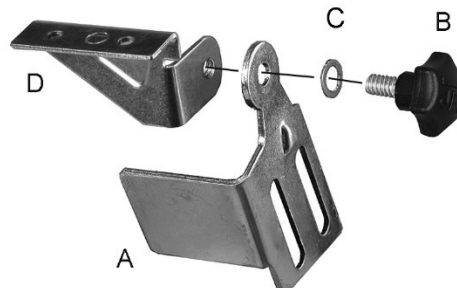

Figure 6-1: bracket to spark guard
Refer to Figure 6-1.
Note: Spark guard (A) and eye shield bracket (D) are marked L for left side assembly. Assemble these using Figure 6-1 as a guide.